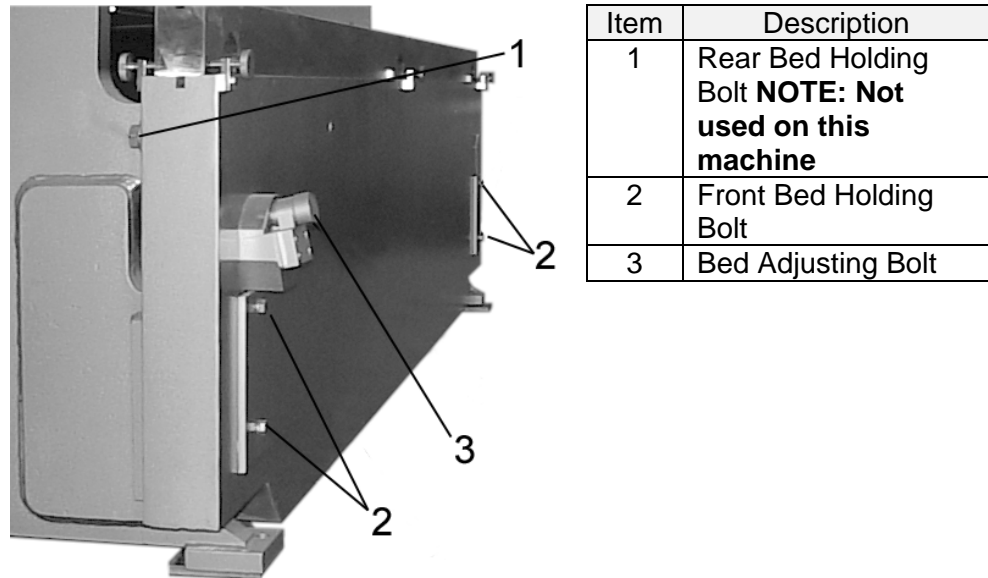

Figure 8: Bed Tilt Wedge Assembly
1. To adjust the bed, loosen the four bed holding bolts. The four bolts are located front side of the bed, two on each end of the bed. (See *Figure 8 Item 2*).
2. Rotate the adjusting bolt clockwise to lift the bed and counterclockwise to lower. (See *Figure 8 Item 3*).
3. Snug the bed holding bolts. The bed holding bolts should only be snug enough to compress the lock washers, but should not be over tightened. (See *Figure 8 Item 2*)